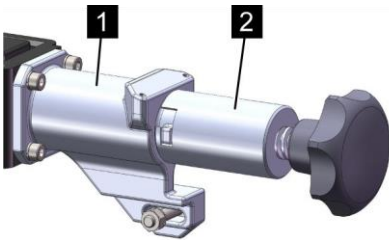

Fig. 154: Clamping device
9. ➤ Remove clamping device (Fig. 154/2) from the holder (Fig. 154/1).